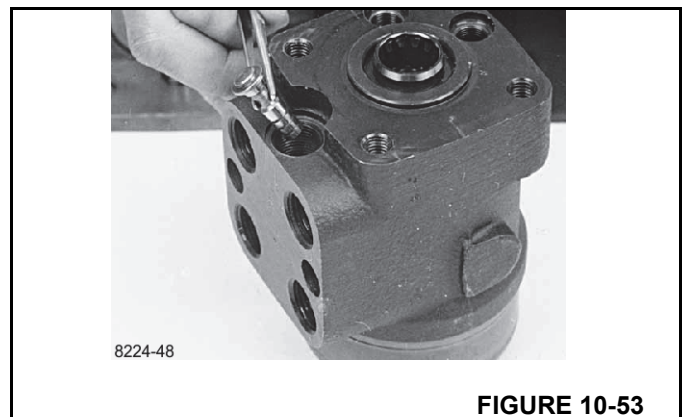

FIGURE 10-53
30. Install the piston and spring (Figure 10-53).